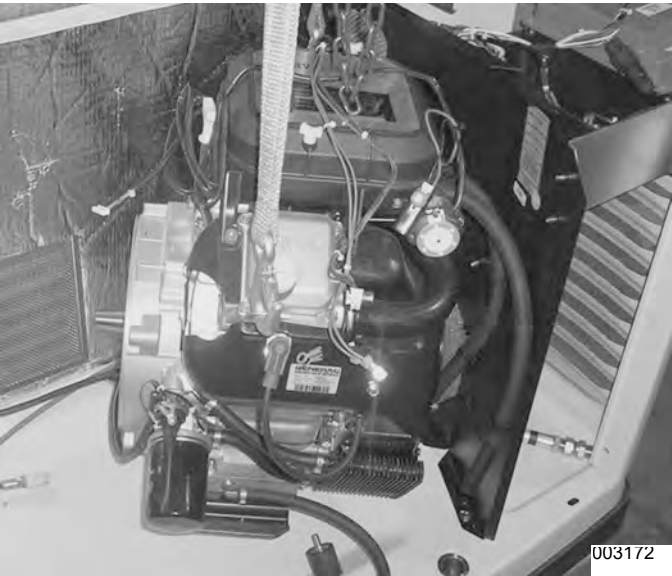

Figure 5-61.
31. See Figure 5-61. Using proper lifting equipment remove the engine.